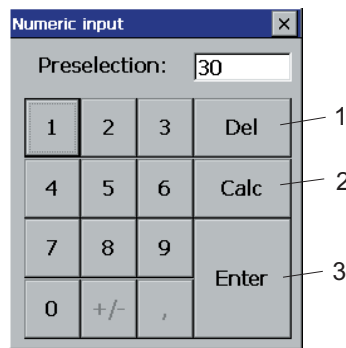

Fig. 48 Input keyboard
- You can correct an incorrect entry by touching the *Del* key (Fig. 48/1).
- Calculator functions can be activated by touching the *Calc* key (Fig. 48/2).
3. Touch the *Enter* key (Fig. 48/3) when the entry is completed.
After touching the key *Read-in paper thickness* (Fig. 48/1), the following display views are possible: